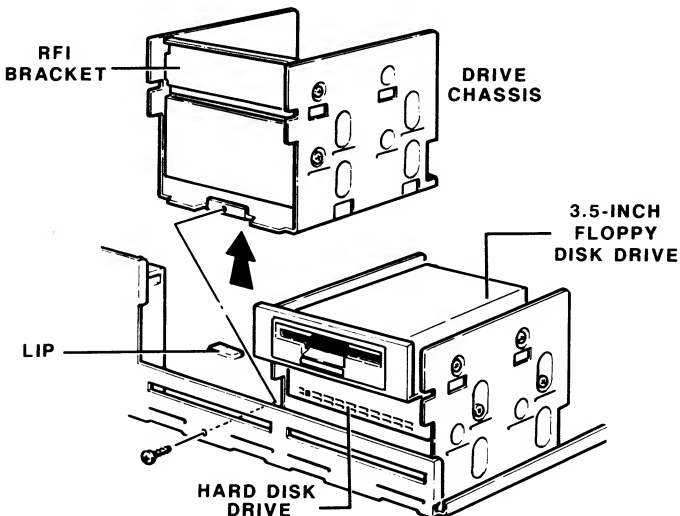

Figure 5-7. Removing the Drive Chassis
2. Remove the screw from the front of the left drive bracket as shown in Figure 5-7.